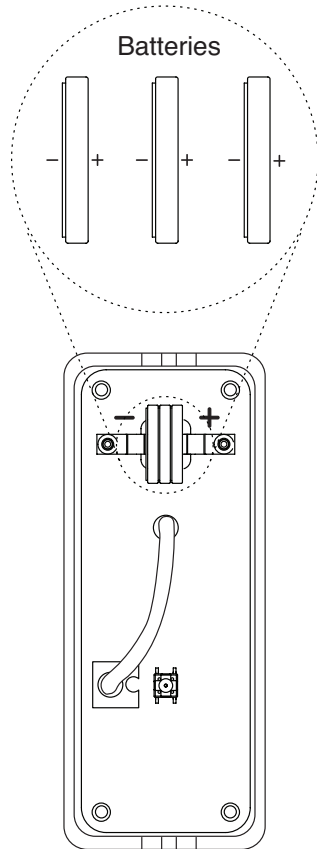

Fig. 3
2. Remove the three old batteries from the circuit board (see figure 3). Use caution so as not to damage the battery holders, components on the circuit board, or the pressure tube.